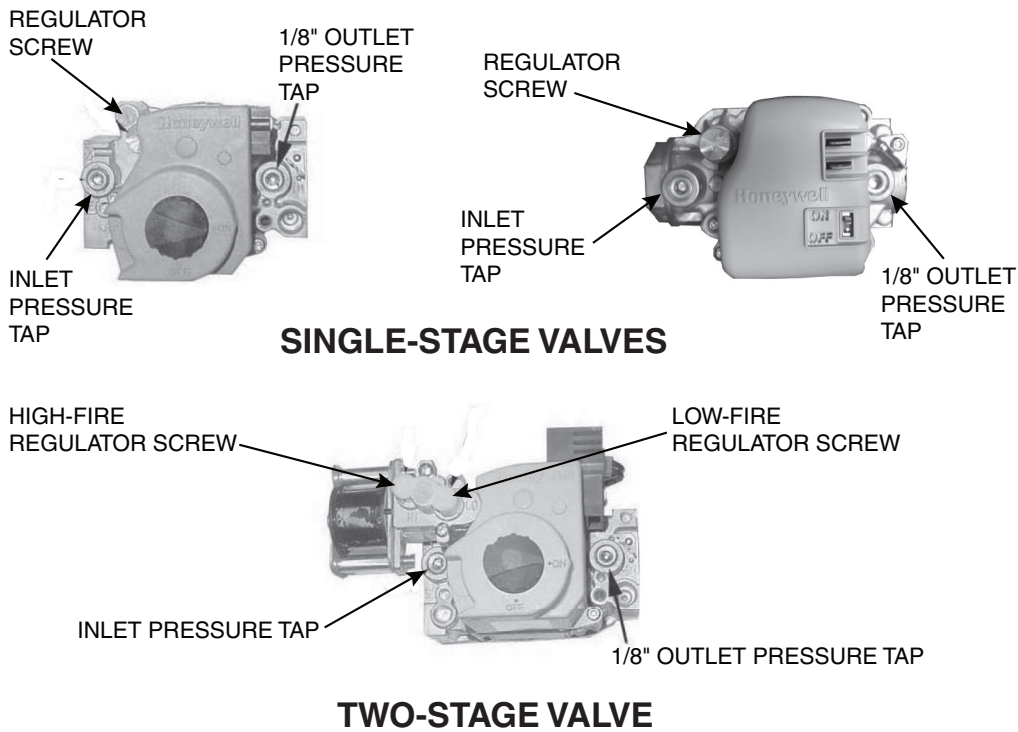

Figure 14. Combination Gas Valves
2. Connect manometer to 1/8-inch output pressure tap on valve (see **Figure 14**).
5. If manometer reading does not indicate that valve outlet pressure is in accordance with Table 16, remove cap from regulator screw(s) (see Figure 14) and adjust pressure by turning regulator screw IN (clockwise) to increase pressure or OUT (counterclockwise) to decrease pressure.
4. Connect manometer to 1/8-inch output pressure tap on valve (see **Figure 14**).
- b. Remove cap from regulator screw (see **Figure 14**) and adjust pressure in accordance with **Table 16** by turning regulator screw IN (clockwise) to increase pressure or OUT (counterclockwise) to decrease pressure.
- b. Remove cap from low-fire regulator screw (see **Figure 14**) and adjust pressure in accordance with **Table 16** by turning regulator screw IN (clockwise) to increase pressure or OUT (counterclockwise) to decrease pressure.
10. Connect manometer to inlet pressure tap (see **Figure 14**). While heater is operating, measure inlet pressure, which should be between 5 and 13.5 IN WC for natural gas or between 11 and 13.5 IN WC for propane.